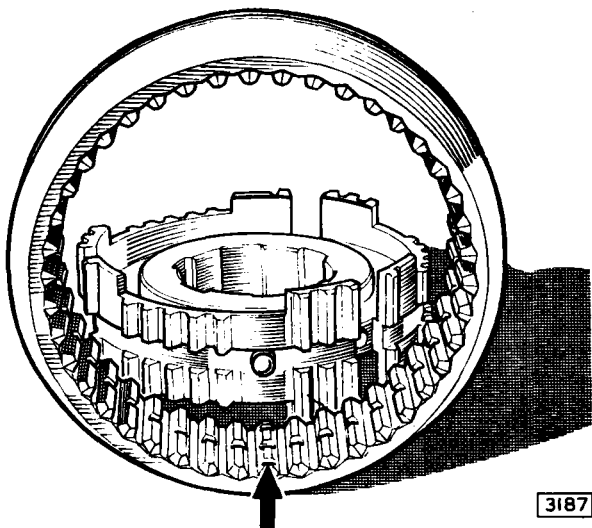

Fig. 55. Fitting the synchro hub in the sleeve.
- (1) The wide boss of the hub on the opposite side to the wide chamfer end of the sleeve (see Fig. 55).
- (2) The three balls and springs in line with the teeth having three detent grooves (see Fig. 55).